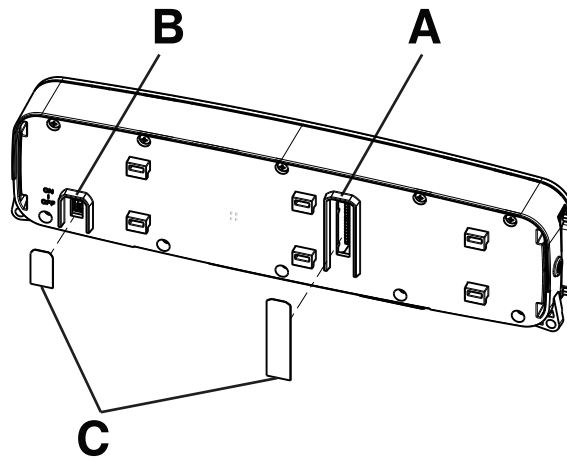

Figure 8 – Switch configuration
4. Using a straight pick, remove and discard the label (521200380902) (C) that covers the **ON/OFF** switch (B) (Figure 8).
5. Turn the **ON/OFF** switch (B) to the **OFF** position (Figure 8).